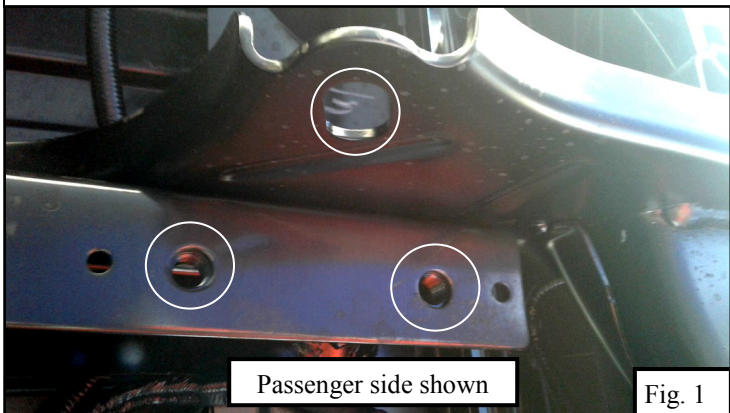

Fig. 1
2. Under the bumper locate mount holes. Figure 1 (Passenger side shown)